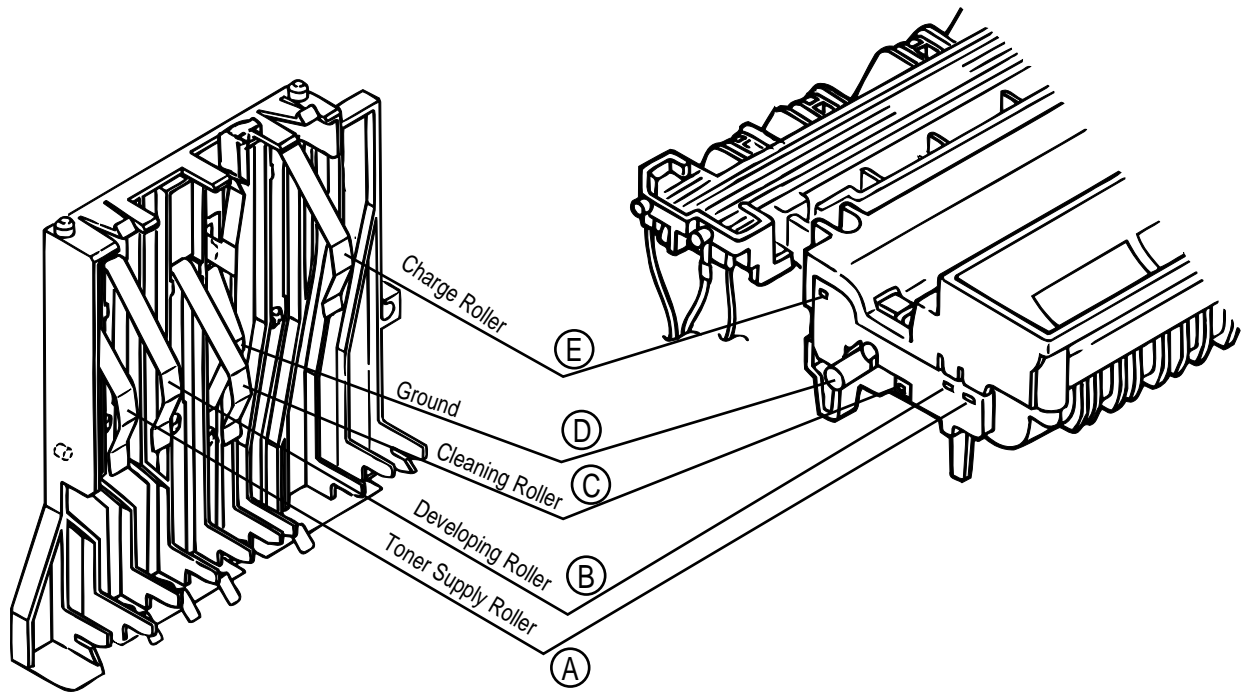

Figure 6-5
- Yes Are the contact of the developing roller and the contact of the toner supply roller of the image drum cartridge contacted with the contact assembly properly? (See Figure 6-5 (A) and (B).)
- ▼ No Is the contact of the cleaning roller of the image drum cartridge contacted with e contact assembly properly? (See Figure 6-5 ③.)
- ▼ Yes Is the contact of the image drum cartridge contacted with the ground contact properly. (See Figure 6-5 ④.)
④ Black belts or stripes in the vertical direction